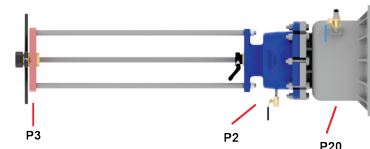

Figure 46
4.3.1 Bolt Hydra-Tapper to the P-20 component using the bolts / nuts included with Hydra-Tapper equipment (see Figure 46).